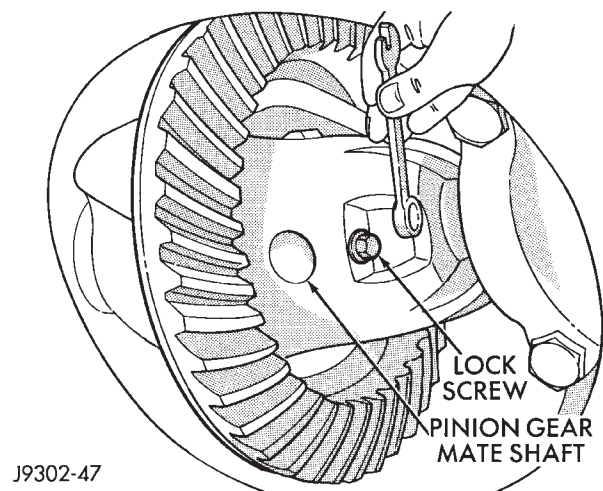
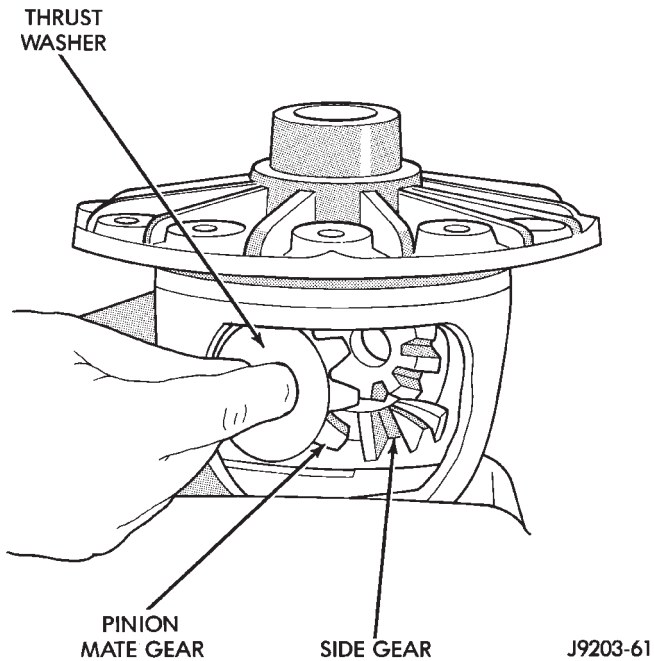

Fig. 49 Pinion Gear Mate Shaft Lock Screw
Fig. 50 Pinion Mate Gear Removal
- (1) Remove pinion gear mate shaft lock screw (Fig. 49).
- (2) Remove pinion gear mate shaft.
- (3) Rotate the differential side gears and remove the pinion mate gears and thrust washers (Fig. 50).